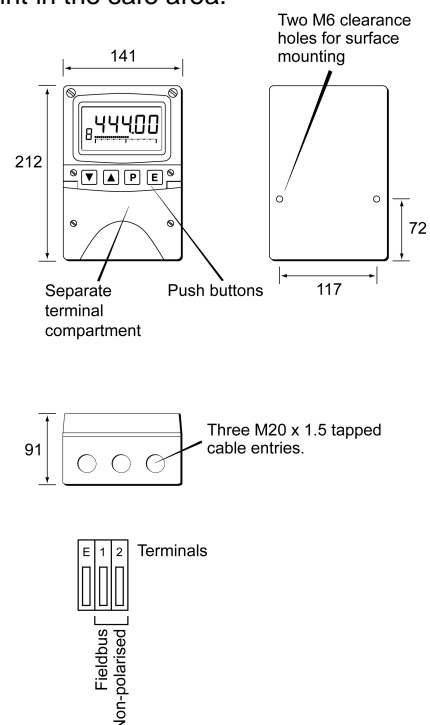

Fig 3 Dimensions and terminal connections
- Connect the field wiring to the terminals as shown in Fig 3.
When used as a fieldbus listener the BA444NDF-P is not visible to the fieldbus host and can only be configured using the front panel push buttons shown in Fig 3.